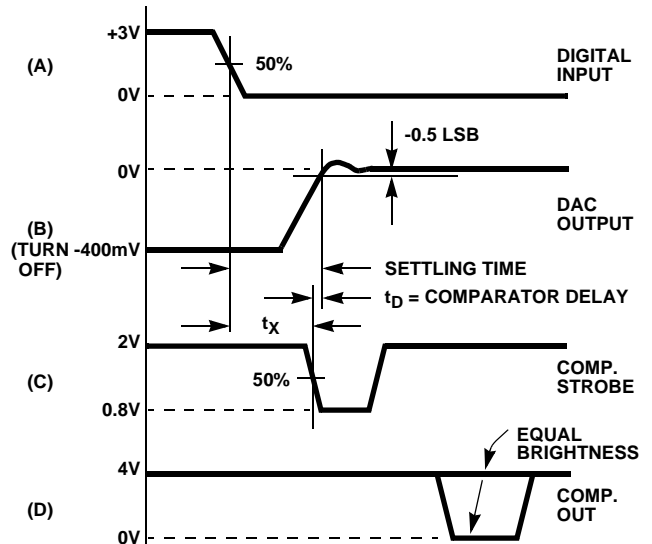

FIGURE 3B.
As shown in Figure 3B, settling time equals t_{χ} plus the comparator delay ($t_D = 15\text{ns}$). To measure t_{χ} :
- Adjust the V_{LSB} supply for 50% triggering at COMPARATOR OUT. This is indicated by traces of equal brightness on the oscilloscope display as shown in Figure 3B. Note DVM reading.
- Switch the LSB to Pulse (P).
- Measure t_{χ} from scope as shown in Figure 3B. Settling time equals $t_{\chi} + t_D$, i.e., $t_{\chi} + 15\text{ns}$.